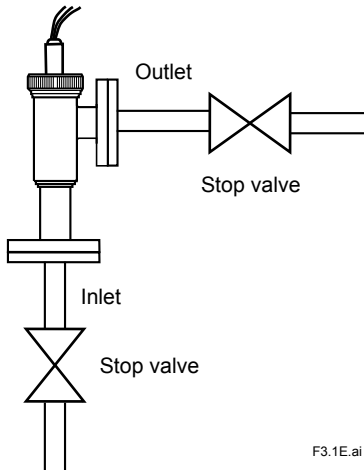

Figure 3.1 Process Piping of Flow-through Type Holder
- (1) Close the valves to shut off the flow or measured solution (see Figure 3.1), first in the inlet then the outlet valves in the flow-through type holder.